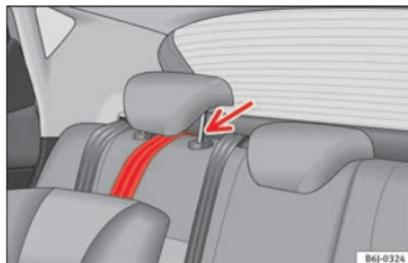

Fig. 28 Retainer strap: correct adjustment and fitting.
- Guide the strap under the rear seat head restraint »» **Fig. 28** (lift the head restraint where necessary).